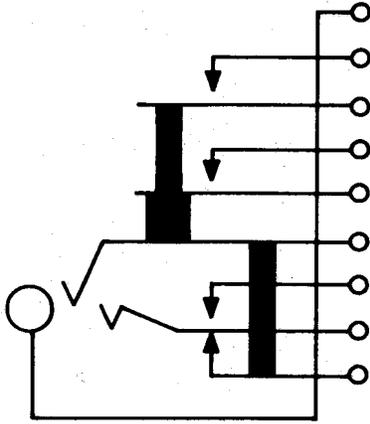

Fig. 12—372A or C Jack
2.12 **372A and C:** These are single-mounted jacks (Fig. 12). These jacks are used with the 757A PBX common control switching and with the 310 or 184-type plugs.